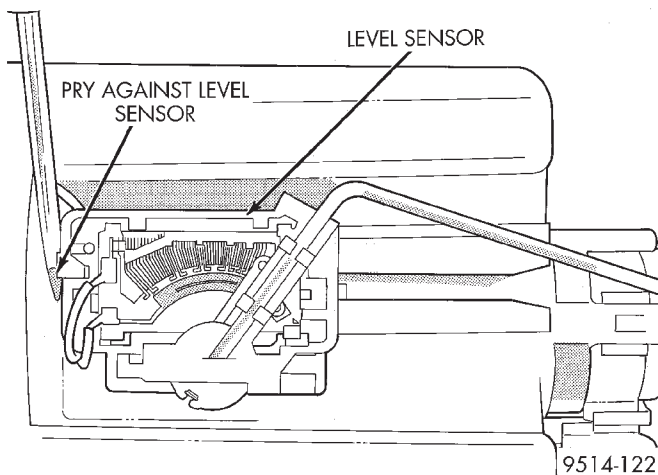

Fig. 22 Loosening Level Sensor
(3) Insert a screwdriver between the fuel pump module and the top of the level sensor housing (Fig. 22). Push level sensor down slightly.